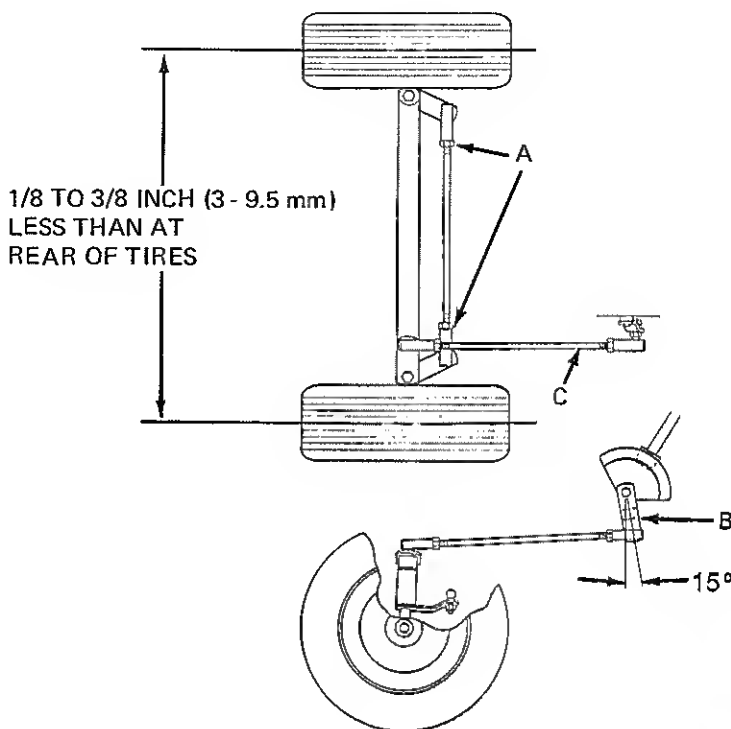

FIGURE 5-1
1. With flange bushing (F) slid onto the pinion shaft assembly, route it through the casting and through the steering column bearing. Slide on any needed shims at point (G) and secure the steering wheel with the roll pin (E) removed earlier.
2. With the steering wheel emblem right side up position steering gear (H) in steering casting.
3. With the steering arm pointed about 10° to the rear, (See Figures 5-1 and 5-3), slide it through the steering casting, and reinstall the shims removed earlier and steering gear (H) Figures 5-3.